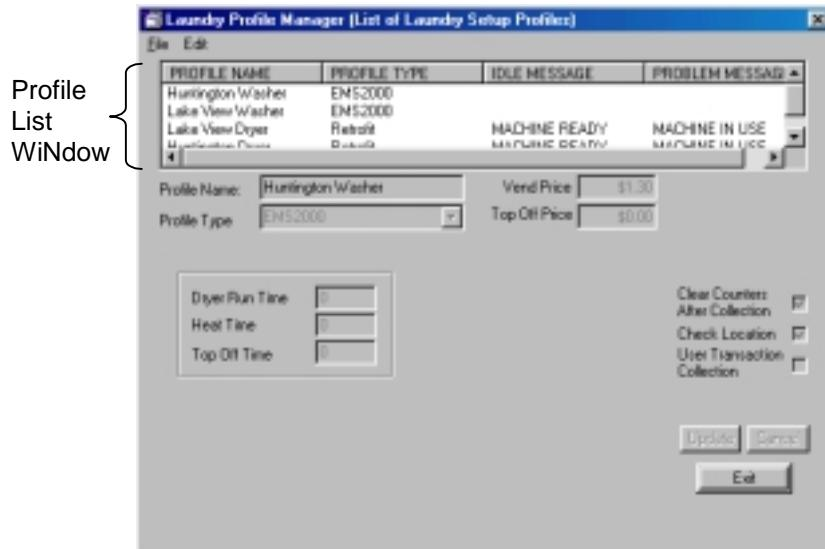

Figure 3.15 Completing the Laundry Profiles
8. When completed, check to verify that the Laundry Profile List Window includes all four laundry profiles created (Figure 3.15).